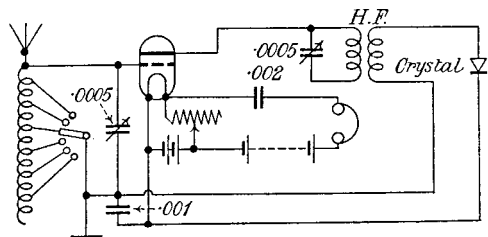

Fig. 1.—The Circuit in Question.
A circuit (Fig. 1) is submitted for criticism and various questions are asked concerning it. The circuit is arranged for "dual" amplification, i.e., the incoming signals are amplified by the valve in conjunction with a H.F. transformer, the rectified signals from the crystal being fed back through the valve for further amplification. The writer has not used a circuit of this description so cannot speak with certainty on its merits. There would seem to be some little uncertainty, however, as to how the grid potential is controlled. As the circuit stands, current arrives at the grid *via* the crystal. Now, the average resistance of a crystal is somewhere about 3,000 ohms, whereas the resistance of a grid leak averages 3 megohms. Some consider-
W. C. D. (Irlam).—(1) 3,000 metres. (2) Variable of .0002 mfd. maximum capacity. (3) About 900 metres. (4) You do not state the dielectric of your condenser, but presuming it to be air, then the maximum capacity will be about .00085 mfd. (5) You do not state the thickness of the glass plates (an important factor). Taking this as .2 cm. then the maximum capacity will be about .0045 mfd.
F. M. (Bristol).—The circuit you show would not be approved, as it involves reaction coupled to the A.T.I. Make up a circuit on the lines of Fig. 1. A.T.I. 250 turns of No. 24 S.S.C. on 3 ins. diameter tube tapped at every 10 turns. Use H.R. 'phones (4,000 ohms total) and any of the usual types of valves. The transformer is the usual iron core L.F. type. Condenser values are marked. Use the type of aerial shown in your Fig. 11, only if possible suspend the upper end from the chimney instead of the eaves, as shown. The frame aerial you suggest would be very poor.
Fig. 1 shows his proposed aerial, the dotted line indicating an alternative lead-in. All details given concerning the aerial are quite correct and it should make up very well. The difficulty lies in the choice of lead-in. Making the aerial an inverted "L" causes the lead-in to make a very acute angle with the aerial and this should be avoided as far as possible. The remedy, then, is to make the aerial a "T." The great trouble with such an aerial is the